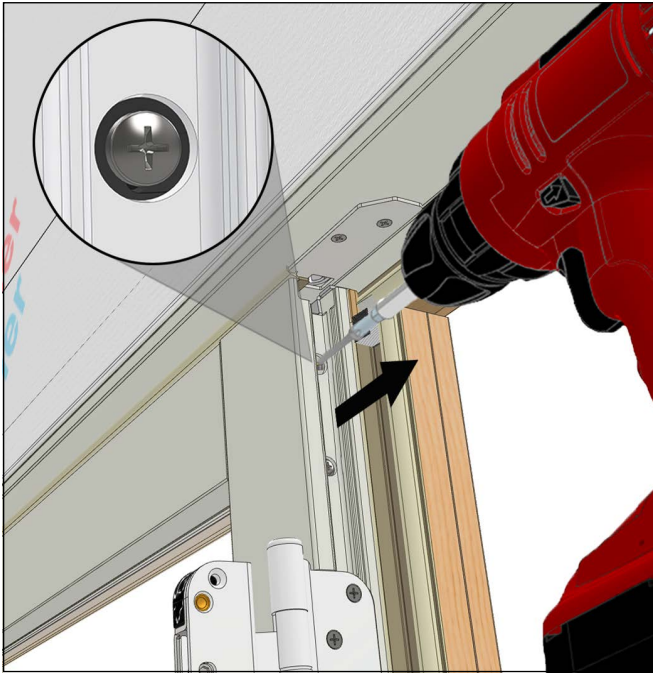

Figure 15
2. Remove one screw (pan head from each panel). See Figure 15.